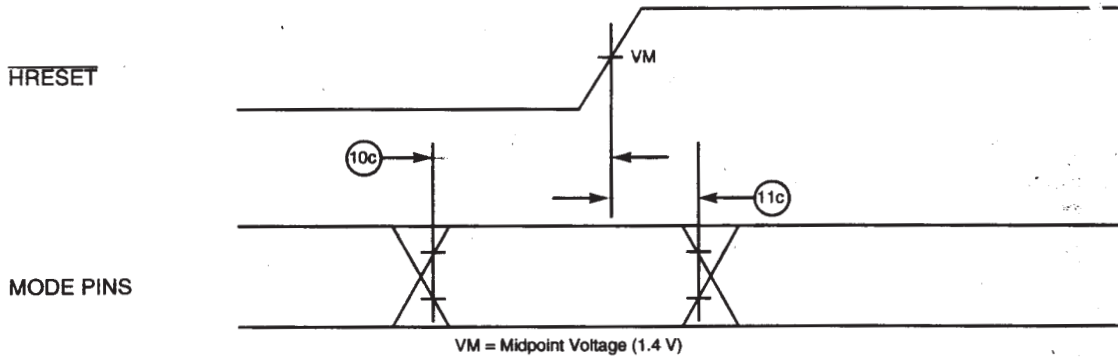

Figure 6 : Mode select input timing diagram
Table 10 provides the input AC timing specifications for the 603r as defined in Figure 5 and Figure 6.
1. All input specifications are measured from the TTL level (0.8 or 2.0 V) of the signal in question to the 1.4 V of the rising edge of the input SYSCLK. Both input and output timings are measured at the pin. See Figure 6.
4. The setup and hold time is with respect to the rising edge of HRESET. See Figure 6.